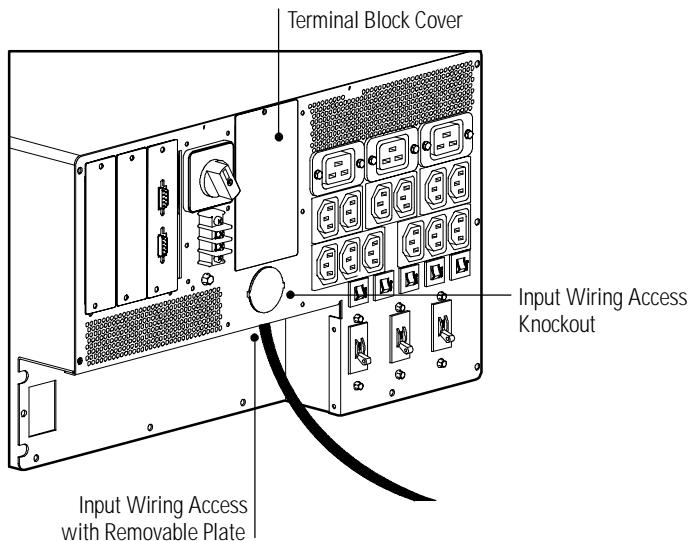

Figure 11. Wiring Access
2. Remove the terminal block cover and either the input wiring knockout or removeable plate (see Figure 11). Retain the terminal block cover.